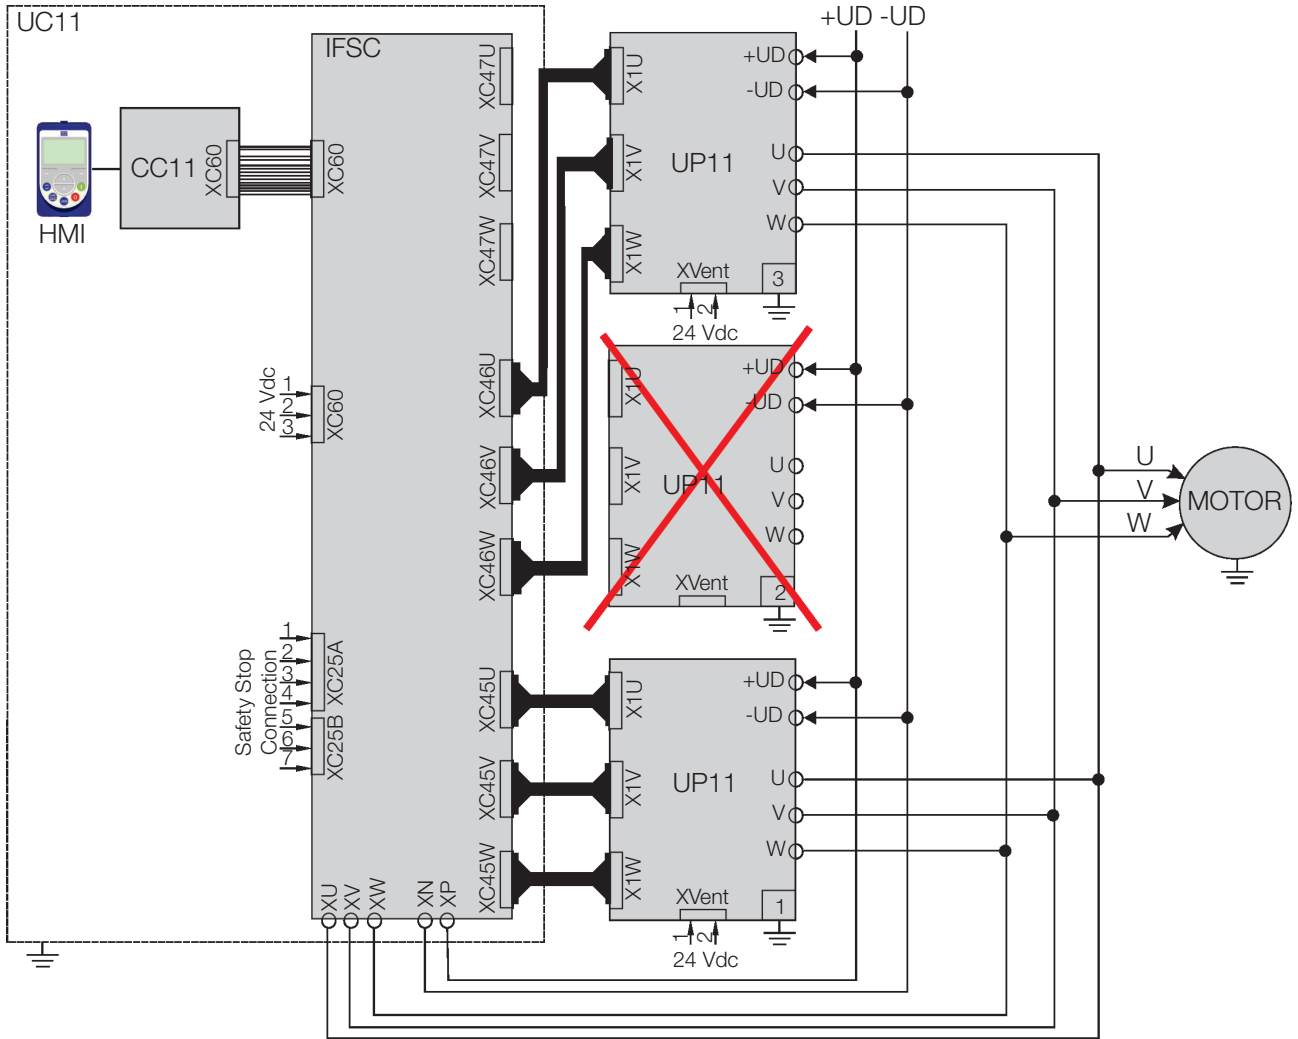

Figure 5.7: Moving the control connections on the IFSC board
4. Move the control connections on the IFSC board, as shown in Figure 5.7 on page 5-12. Connect the control cables of UP11 number 3 to position 2 of the IFSC board. Thus, UP11 3 becomes UP11 2.